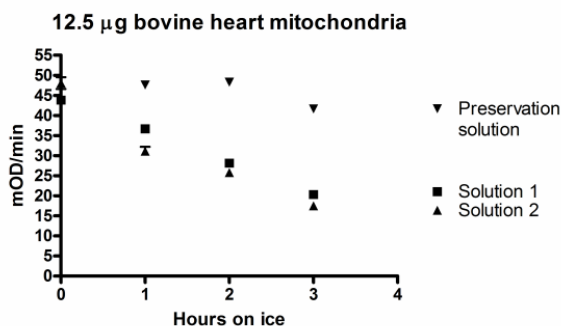

Figure 1. Aconitase preservation solution
2. On the day of the assay prepare the mitochondria by thawing and dilute to 5 mg/ml in the supplied, ice-cold, aconitase preservation solution which has been shown to stabilize aconitase activity for >3 hours on ice (see Figure 1). This buffer functions to scavenge hydroxyl radicals that would otherwise inhibit aconitase over time.
Aconitase activity is unstable with time. Using the supplied mitochondrial preservation solution, aconitase activity is maintained for longer while samples are stored on ice (Figure 1).